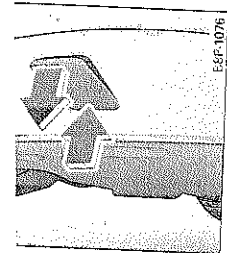

Fig. 222 Rear bumper:
- Place the screwdriver against the upper edge of the cover and carefully pry it out ⇒ page 318, fig. 222.